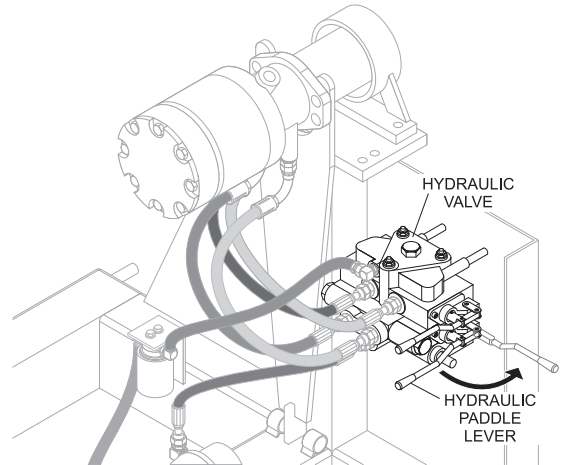

Figure 23. Hydraulic Paddle Lever
- On the hydraulic valve, push lever inward (Figure 23) for clockwise mixing rotation of blades.